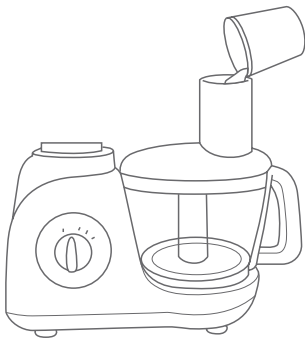

Fig. 4
- The throat can be used to add liquid and solid ingredients. (Fig. 4)